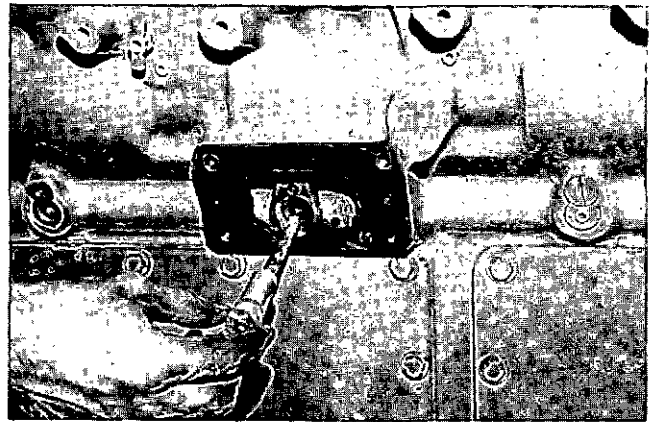

Fig. 14-1-44, V414144. Installing piston cooling nozzles
3. Install nozzles in block and secure each nozzle flange with a flatwasher, lockwasher and capscrews or slotted screw with Nylok insert. Fig. 14-1-44.
Note: One nozzle on either side of block is located under a cover plate. Fig. 14-1-44.